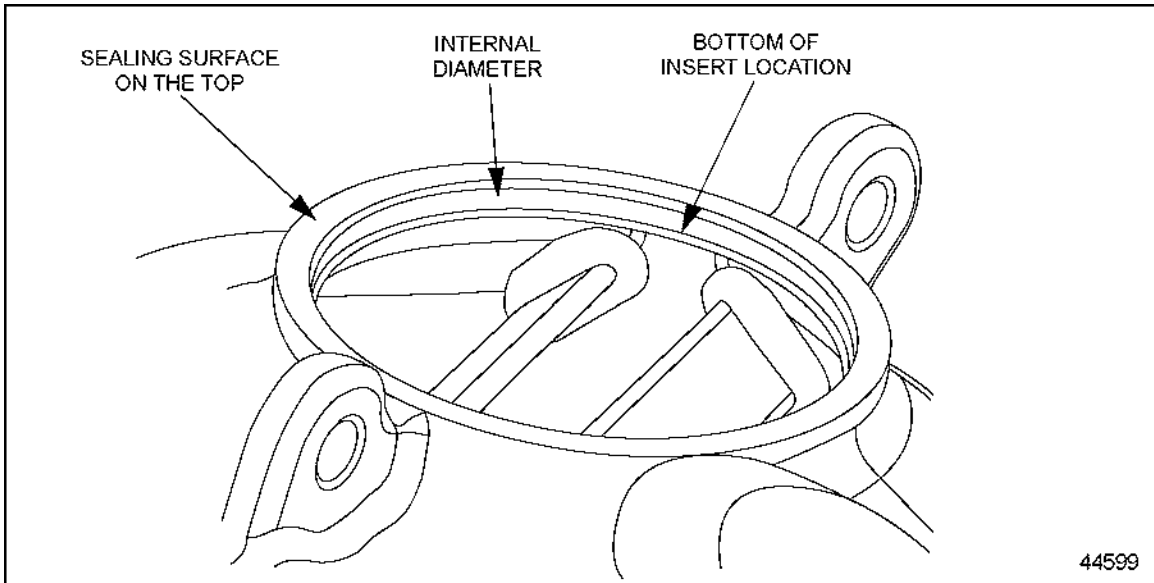

Figure 6 EGR Cooler Spherical Insert
3. Clean the sealing surface on the top, bottom, and internal diameter of the insert location. See Figure 6.